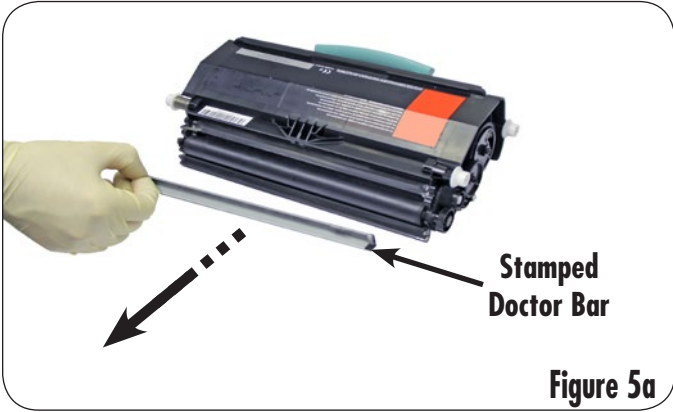

Figure 5a
- 4. Remove the doctor bar from the toner hopper as shown in Figure 5a. If reusing the doctor bar then clean using dry, filtered, ionized, compressed air and wipe the working surface from the center outward with a lint free cloth (Figure 5b).